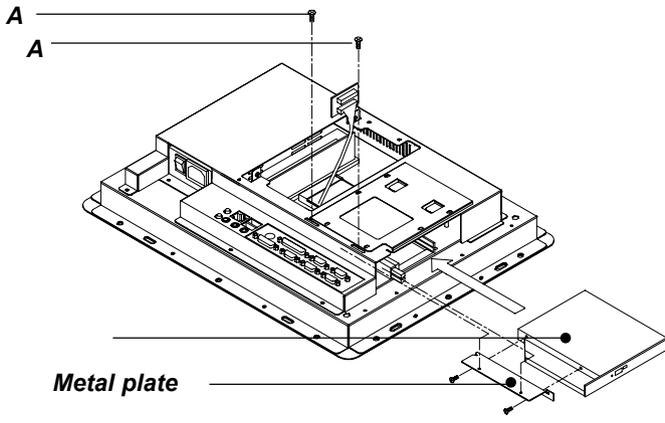

Figure 4-5: Installing the optional slim CD-ROM drive
2. There is a metal plate which holds the slim CD-ROM drive to the metal shielding case. There is also a slim CD-ROM support bracket which is attached to the shielding case. There are two screws ("A") on the metal plate. Unscrew these two screws. (See Fig. 4-5.)
5. Place the support bracket against the slim CD-ROM drive. It should fit neatly into the space allocated for the bracket. (See Fig. 4-5.)